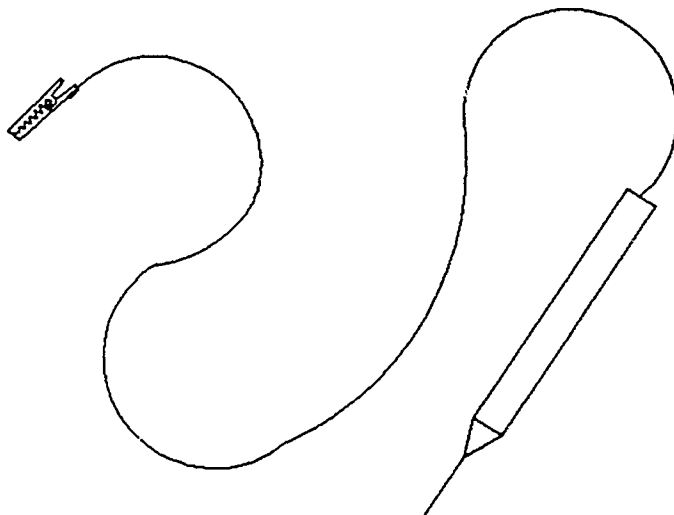

Figure C-1-5
2. Remove the grounding rod from the Van Der Graaf using alligator clip and insulated wires (see Figure C-1-5, "Alligator Clip").